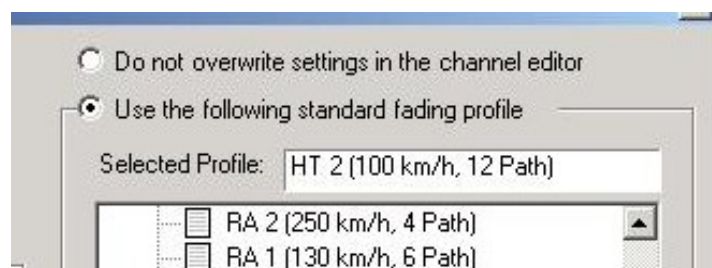

Figure 1-18: Test Assistant Window – Profile Selection Option
8. Select **Use the following standard fading profile**, as shown in Figure 1-18.